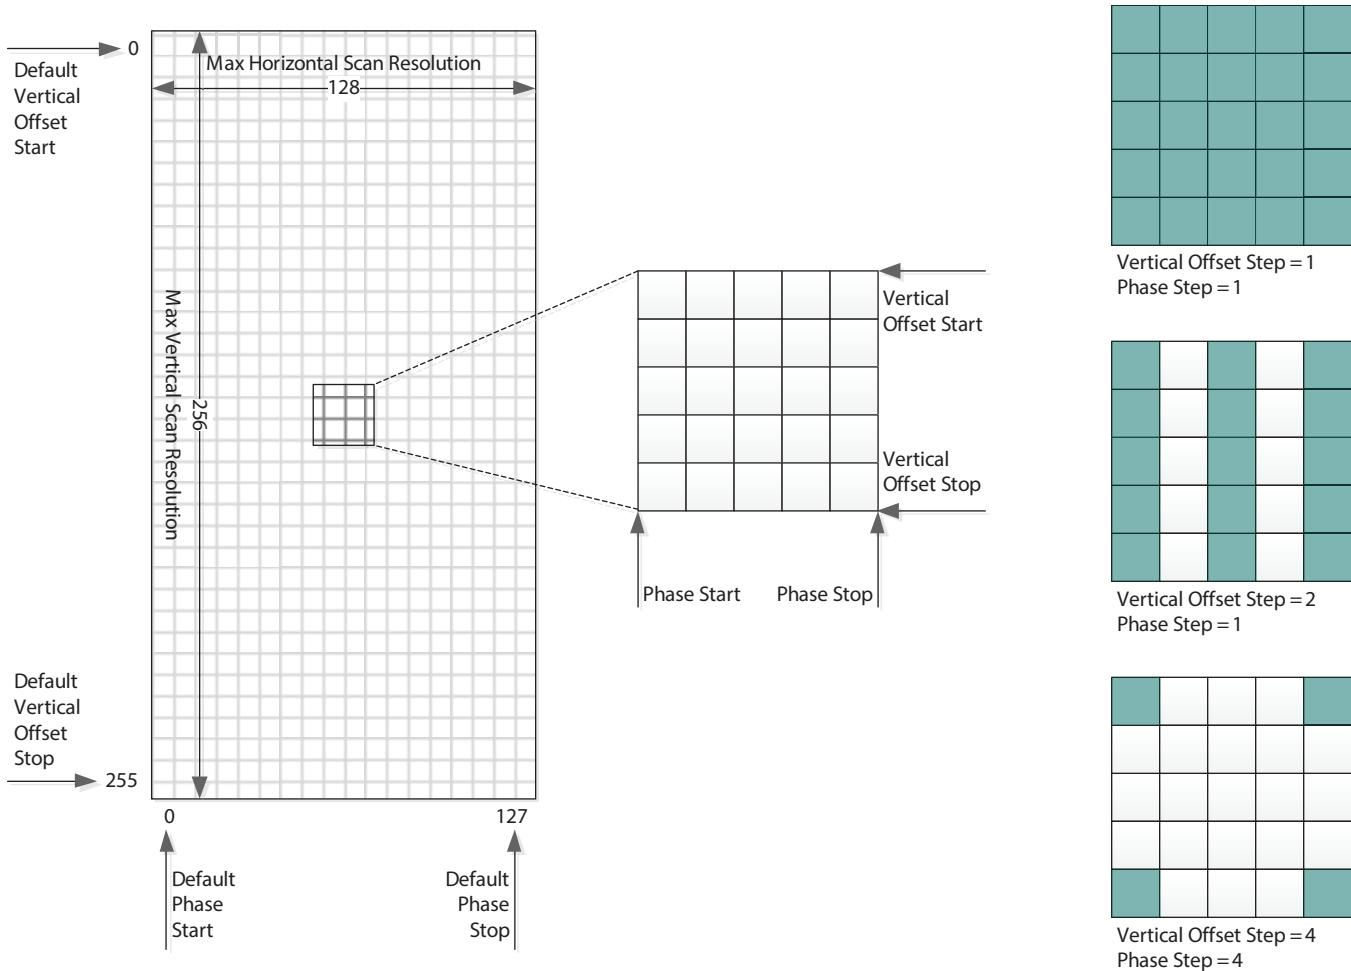

Figure 4-7: Eye Scan Matrix Parameters
Figure 4-7 shows a visual representation of the scan matrix and indicates the spatial parameters that determine the scan area and resolution. Running a scan using the default offset and step parameters, results in 32768 (128x255) samples. The number of samples and thus, the total scan time can be reduced to meet the needs of the application. The scan area can be reduced by reducing the span determined by the vertical and phase start and stop offsets. Or, the resolution can be reduced by increasing the step size between adjacent samples. On the right in Figure 4-7, there are three step settings used as examples, however there are a total of nine combinations possible. See Table 4-6 for the register addresses and parameter names of the spatial eye scan parameters.
Figure 4-7 illustrates an example of an eye scan, where the sampled eye data is not centred within the scan matrix. The eye scan data has an arbitrary centre phase relative to the centre of the matrix which is determined when the Eye Monitor is powered-up. While the Eye Monitor remains powered, subsequent scans will maintain the same relative phase allowing for consecutive scans to be compared for changes.
- ◆ Making reference to the Matrix shown in Figure 4-7, the eye scan data starting at 0x6C02 is stored in order from left to right, top to bottom, from the last stored vertical/horizontal position in the matrix